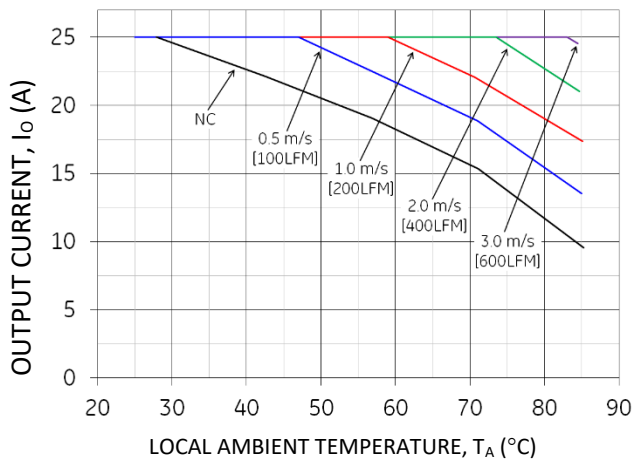

Figure 19. Output Current Derating for the Open Frame QBVW025A0B in the Transverse Orientation; Airflow Direction from Vin(-) to Vin(+); Vin = 48V.
Increased airflow over the module enhances the heat transfer via convection. The thermal derating of figure 19- 23 shows the maximum output current that can be delivered by each module in the indicated orientation without exceeding the maximum TH_x temperature versus local ambient temperature (T_A) for air flows of, Natural Convection, 1 m/s (200 ft./min), 2 m/s (400 ft./min).
The use of Figure 19 is shown in the following example:
Determine required airflow (V) (Use Figure 19: